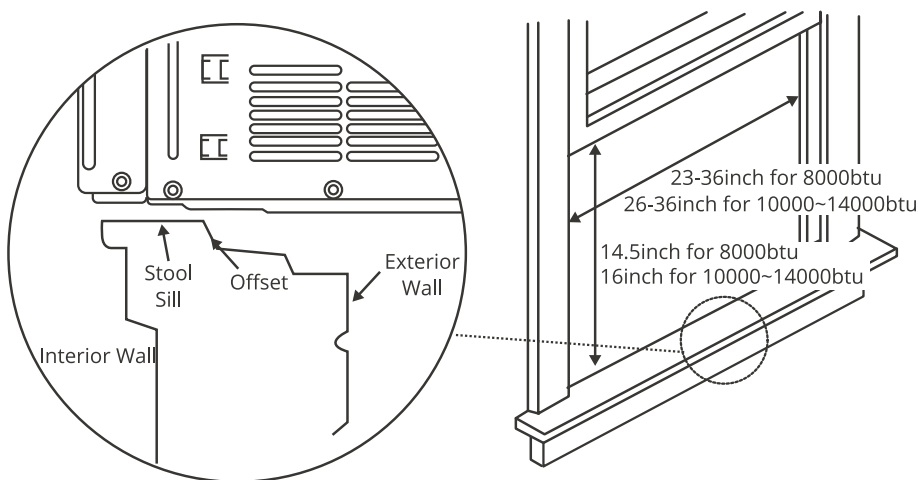

Fig.1
- The Lower Sash (the lower part of the window that moves up and down) must allow for 14.5" of vertical clearance when open, for 8000btu. (See Fig.1).
for 16" of vertical clearance when open, for 10000btu~14000btu. (See Fig.1).